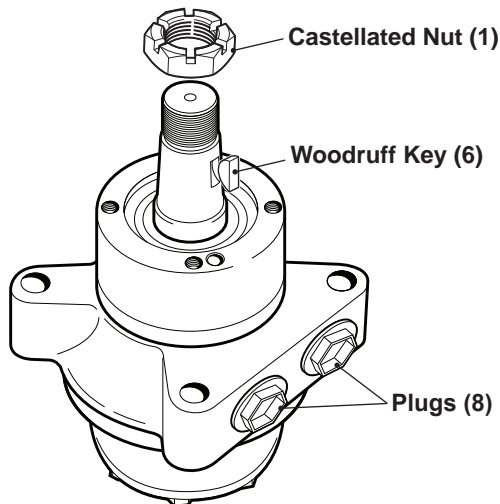

Figure 4, Nut, Woodruff Key and Plugs
2. Remove the castellated nut (1). See *figure 4*.
3. Remove the woodruff key (6) and the plastic plugs or fittings (8), if installed. See *figure 4*. Drain oil from the motor.